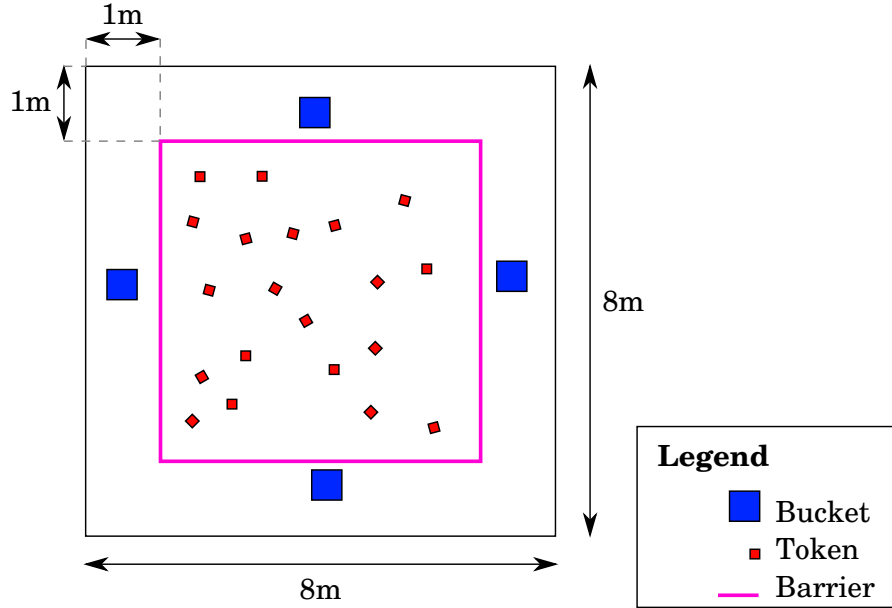

Figure 3: A bird's-eye view of the arena.
3.3.1 The match arena floor, overall, is an  $8m \times 8m$  square, as shown in figure 3. The tolerance of these two dimensions is  $\pm 0.25m$ .